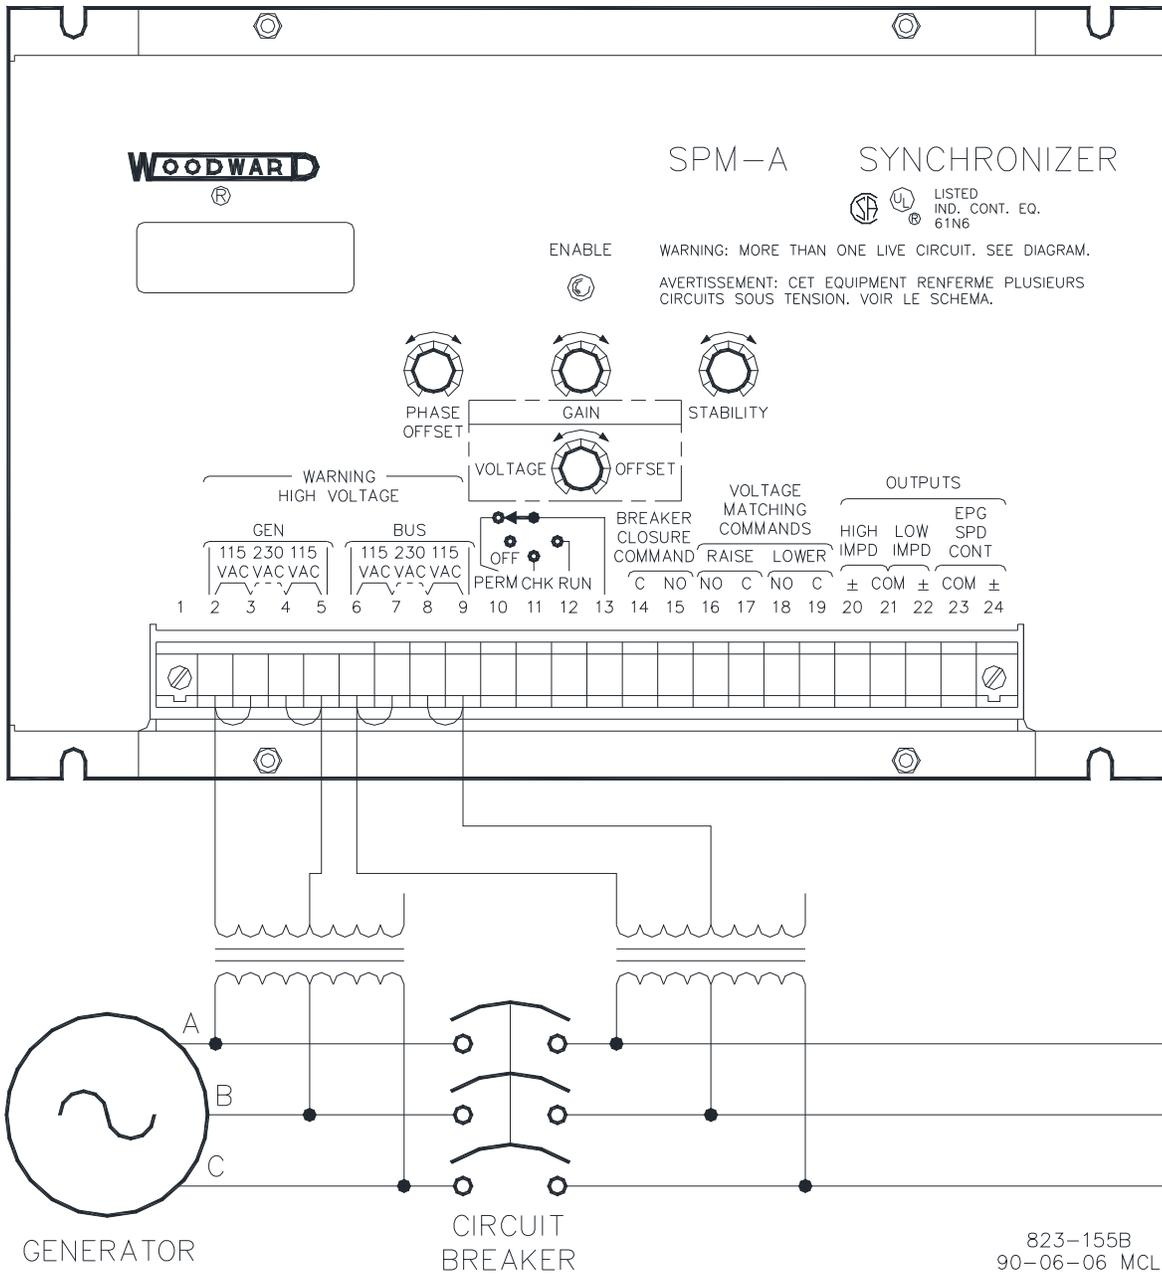

Figure 2-1. Typical SPM-A Synchronizer Wiring
The following instructions and wiring diagrams illustrate typical wiring connections. For applications not shown in Figures 2-1 and 2-2, refer to the plant wiring diagram (Figure 1-4) or contact Woodward for assistance.
1. Connect the generator PT neutral to synchronizer terminal 5 (Figure 2-1).